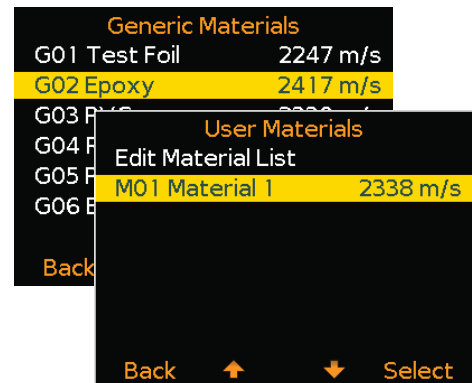

Figure 19
- 2 Use the  $\uparrow\downarrow$  softkeys to highlight the required coating material followed by 'Select' (Figure 19).